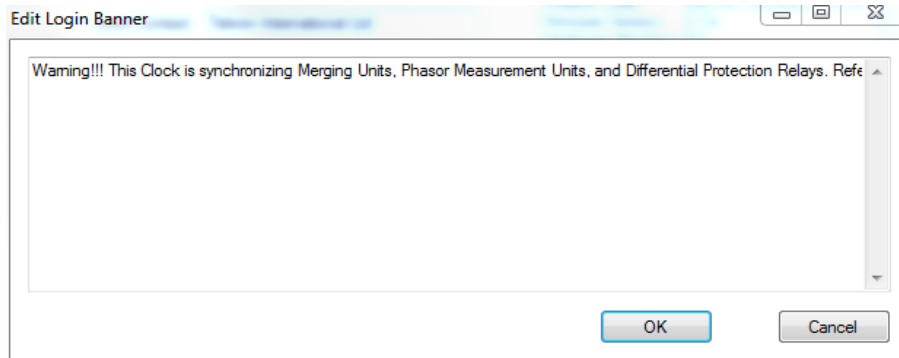
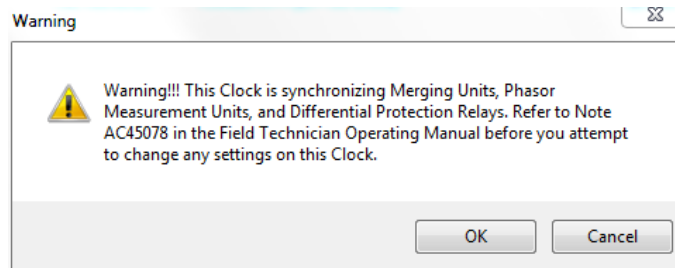

Figure 54 - Edit Login Banner
Figure 55 - Login Banner
Below is an example of the Edit Login Banner window (refer to Figure 54) and the corresponding message (refer to Figure 55) that appears when a user attempts to connect to the Clock.
**“Factory Reset” button:** The Factory Reset button returns the clock to the Factory Settings, and removes all of the Groups and Users configured in the device. When clicked, the “Factory Reset” warning window appears. Refer to Figure 54.
When the button is clicked, a new window will appear to confirm your action (Refer to Figure 55). By clicking the “OK” button, the unit will proceed to restart, and the Clock will close the connection with Tekron’s Configuration Software. To reconnect, return to the discovery Window and select the Clock and click Configure. Refer to section 7 for more detailed instructions.